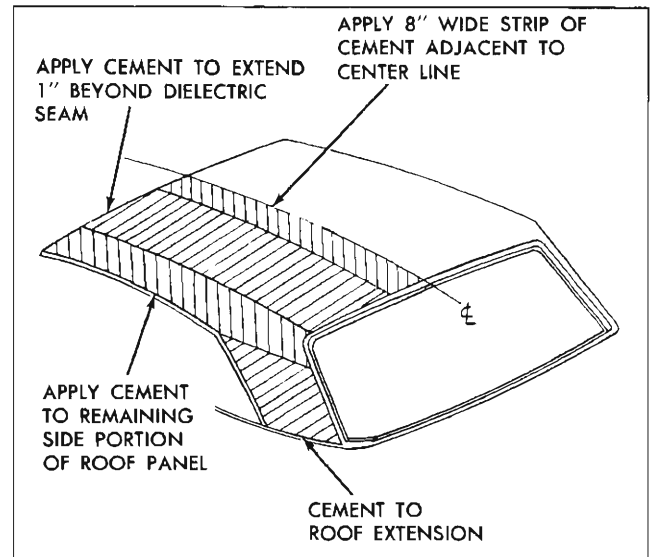

Fig. 117—Fabric Cover Cementing Procedures
prene type non-staining weatherstrip cement (3M Super Weatherstrip Cement or equivalent) may be used. Instead of applying neoprene cement to entire inner layer of cover in one application, a step procedure is used. **Do not allow drying period.** Begin by applying an 8" wide strip of cement adjacent to center line of fabric cover to correspond with area shown in Figure 117.
10. Once 8" strip of fabric cover is cemented to roof panel, fold over side portion of fabric cover. Apply nitrile cement to roof panel to extend approximately 1" beyond dielectric seam location. If neoprene type weatherstrip cement is used, apply cement to fabric cover and roof panel to extend 1" beyond dielectric seam location. (See Fig. 117).
12. Cement fabric cover to side portion of roof panel (except rear quarter area) and drip molding. See Fig. 117).